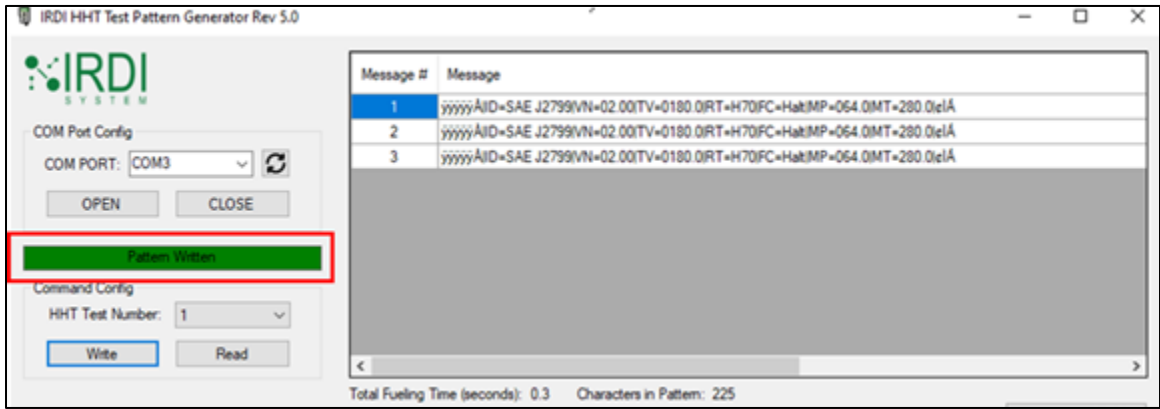

FIGURE 6-23 HHT TEST PATTERN GENERATOR SOFTWARE – HHT PROGRAMMING DONE
STEP 4	The “HHT Status” message will display “Pattern Written” when the HHT programming is completed – see Figure 6-23 below.